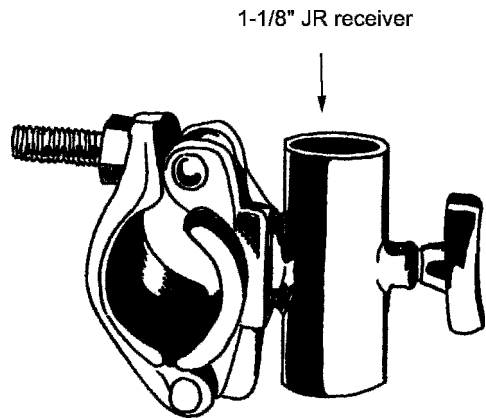

Figure 2.31b Grip clamp with junior receiver.
2. Junior grid clamps (Figure 2.31b) are the same as baby grid clamps, except that they terminate in a 1-1/8 in. receiver.